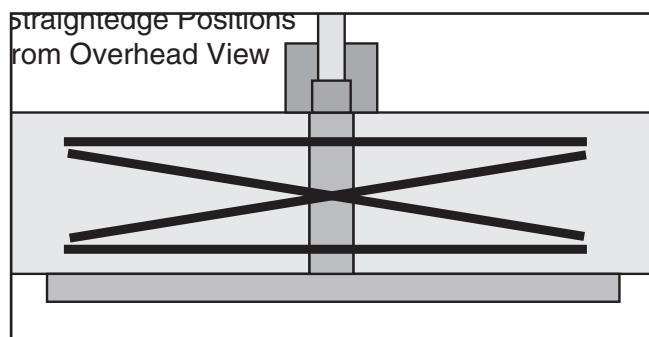

Figure 51. Straightedge positions for checking infeed/outfeed table parallelism.
4. Place the straightedge in the positions shown in **Figure 51**. In each position, the straightedge should sit flat against both the outfeed table and the infeed table.
7. Place the straightedge in one of the positions shown in **Figure 51**, and adjust the eccentric bushings under the infeed table so the straightedge lies flat against both tables. Repeat this step with each of the remaining straightedge positions as many times as necessary until the infeed table is parallel with the outfeed table.